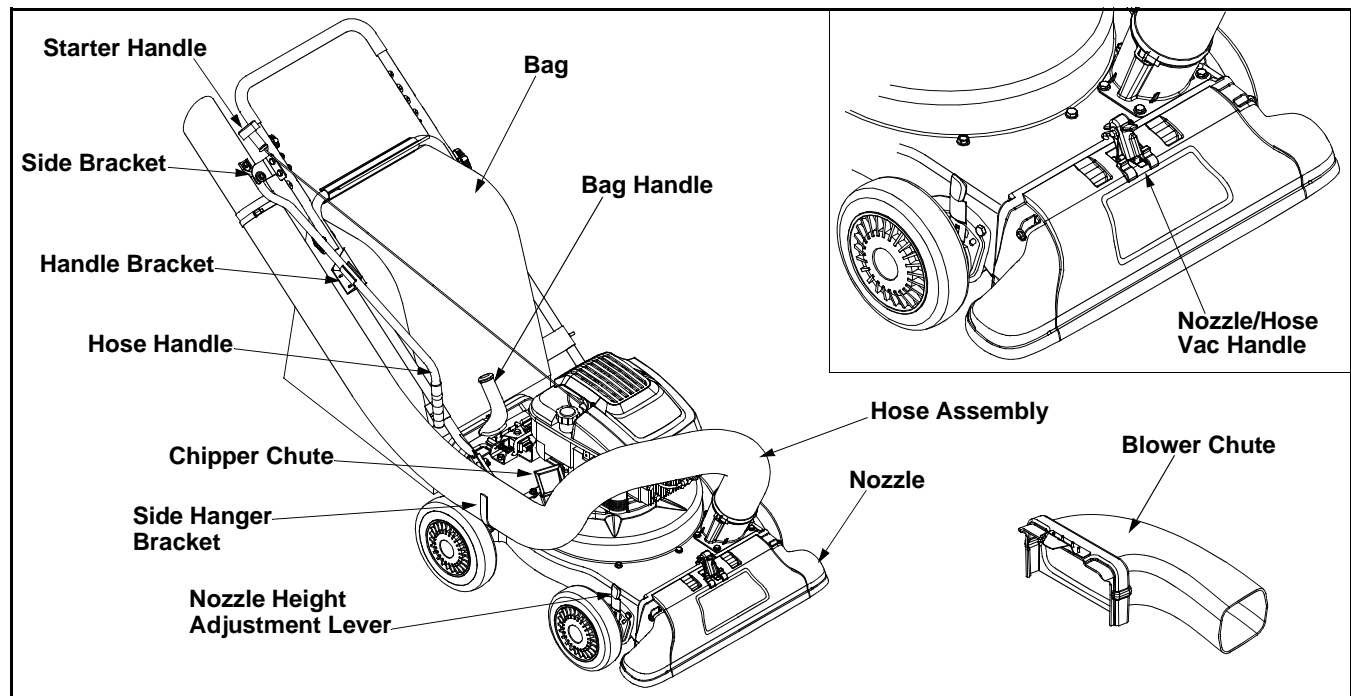

Figure 6
- Connect the hose handle near nozzle end of hose to the side bracket on the upper handle. Refer to Figure 6.
- Snap hose handle to the lower handle bracket to secure in place and lay hose tubing on side bracket hanger next to chipper chute. Refer to Figure 6.
Read this operator's manual and safety rules before operating your Yard Vacuum. Compare the illustrations in Figure 6 with your unit to familiarize yourself with the location of various controls and adjustments.
**Wheels:** Lubricate each wheel shoulder screw once a season with light oil. Refer to Figure 6.
**Nozzle height adjustment levers:** Lubricate the pivot points of the nozzle height adjustment levers once a season with light oil. Refer to Figure 6.
**Locking Rod:** Lubricate the locking rod with light oil to ease the application of attaching on or removing bag or blower chute. Refer to Figure 6.
**Nozzle/Hose Vac Handle:** Lubricate the nozzle/hose vac handle on top of nozzle once a season with light oil. Refer to Figure 6.